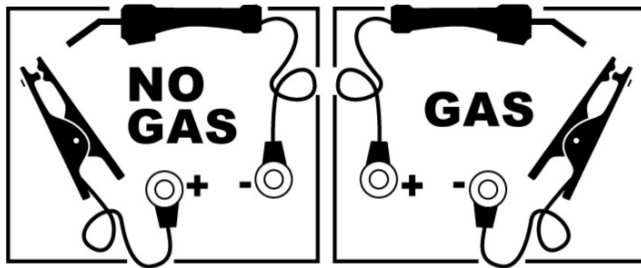

Figure 9. Changing Polarity
B. For MIG (GMAW) welding, mount the Ground Clamp ring terminal to the “-” mounting post and the Torch ring terminal to the “+” mounting post. See configuration shown in Figure 9.